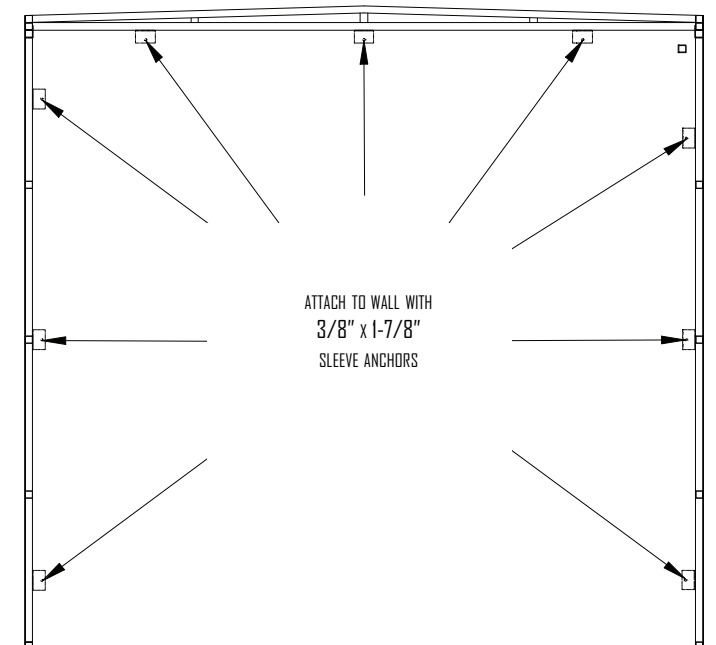

FIG. 9B
- Drill holes through remaining mounting brackets (Fig. 9b).